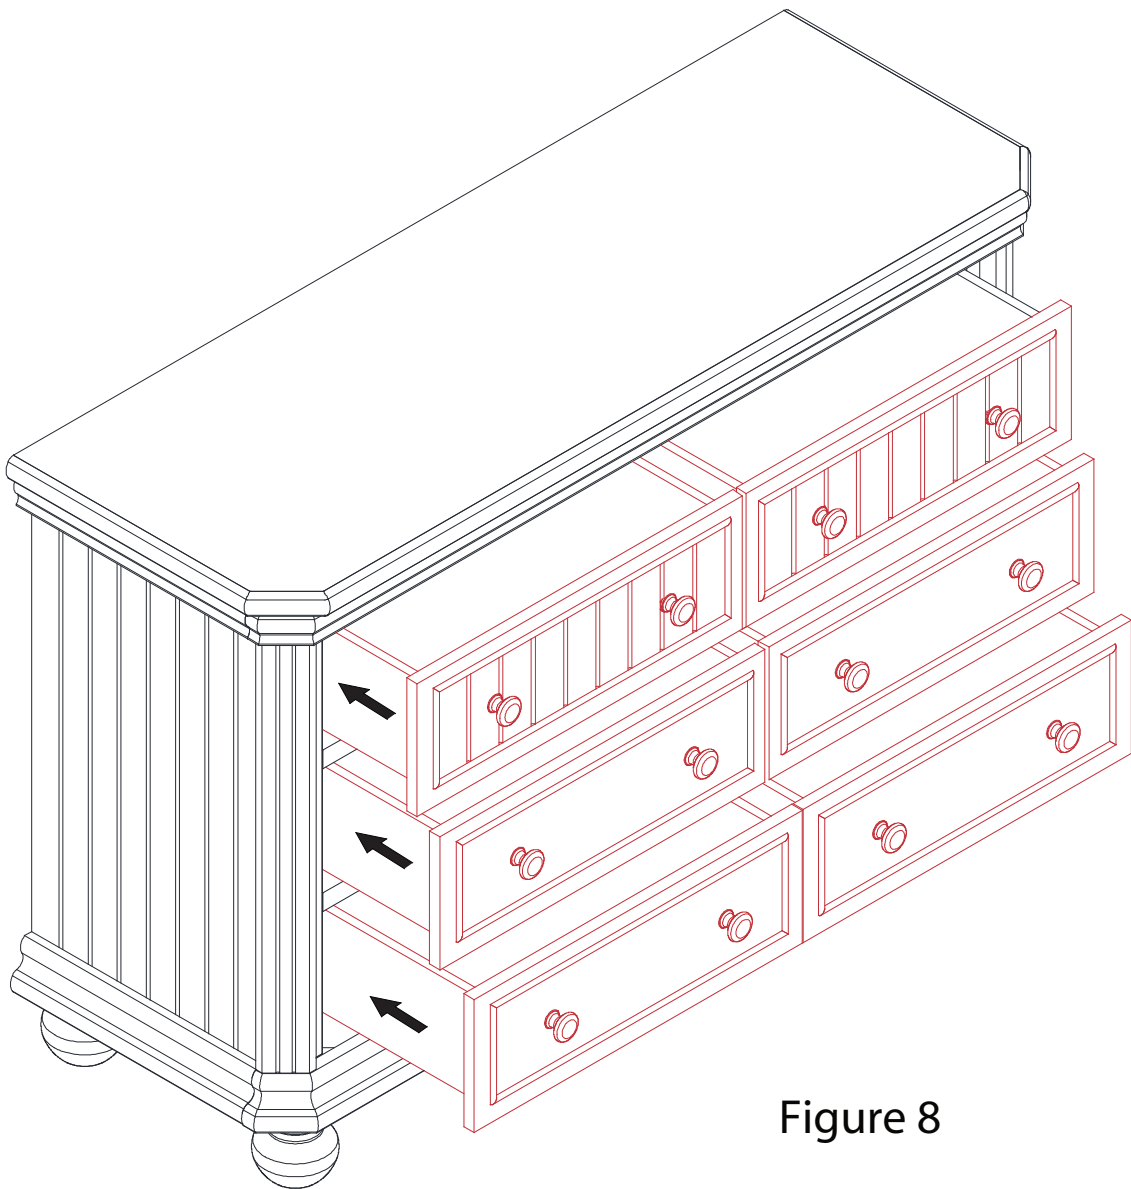

Figure 8
- ⑧ Assembly the drawer as Figure 8.